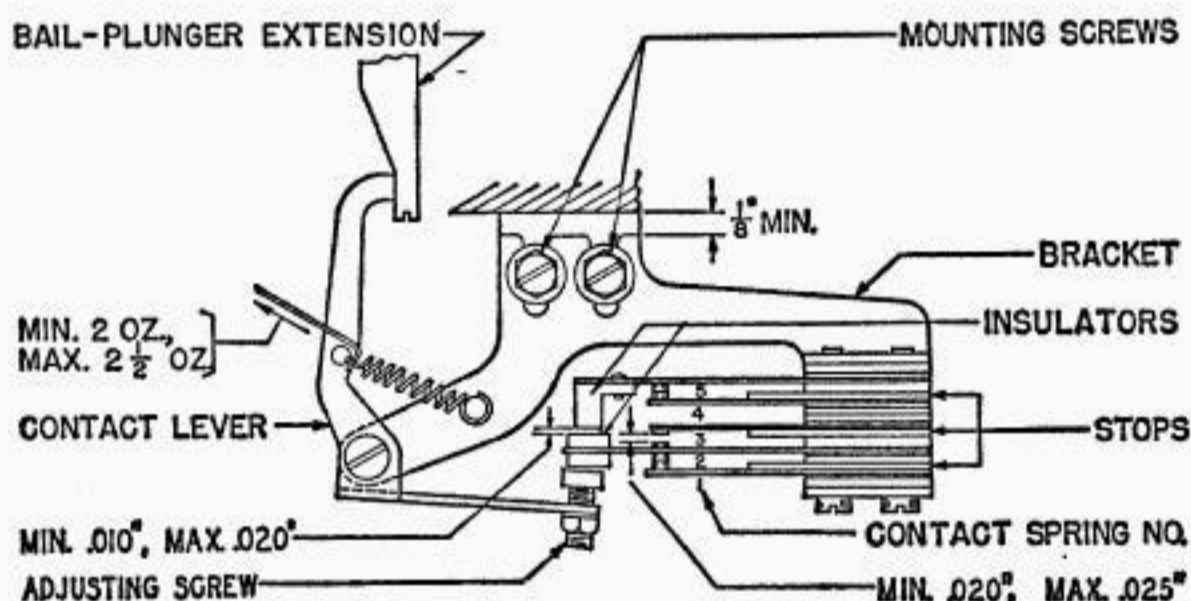

Fig. 71
- (g) 2.138(d)(2) and Fig. 71 — revised
(2) With the No. 5 spring returned to its unoperated position, there should be a clearance of Min 0.010", Max 0.020" between the No. 5 and No. 2 contact-spring tip-insulators. **Fig. 71**
5. Universal Contacts, No. 2 Contact Spring requirement in 2.138(d)(2) and Fig. 71 is revised to include the change authorized for this apparatus by BSP P98.406.